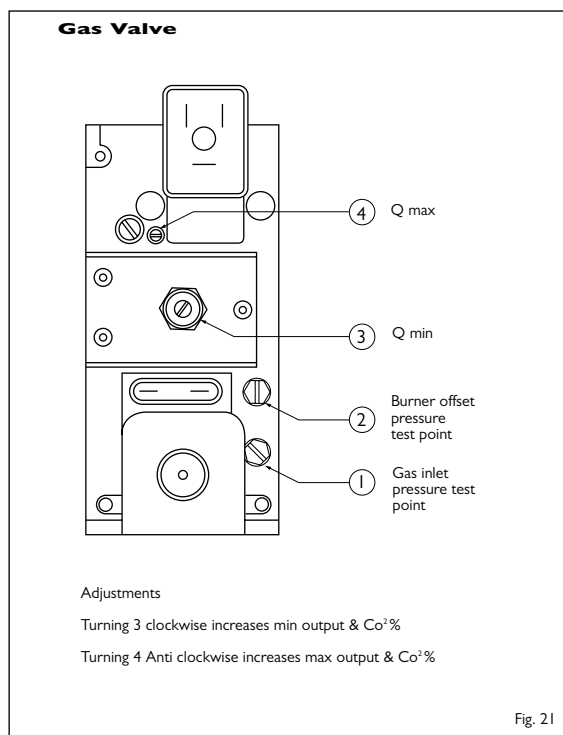

Fig. 21
- d) Attach U tube manometer to inlet pressure test point on right hand gas valve (See figure 21) nominal pressure should be 20mb for NG or 37mb for LPG.
- e) Press the “Engineers” test button twice - the screen should/must display “10 min Low”. The boiler should now ignite and following stabilisation of the flame, will turn down to and hold at minimum output. In the event that ignition of one or both burners does not occur after 4 attempts the appliance will go to ignition failure lockout. Remove the cover cap screws from Qmin adjustment on gas valves (See figure 21 (3)) turn adjustment screw half turn clockwise.